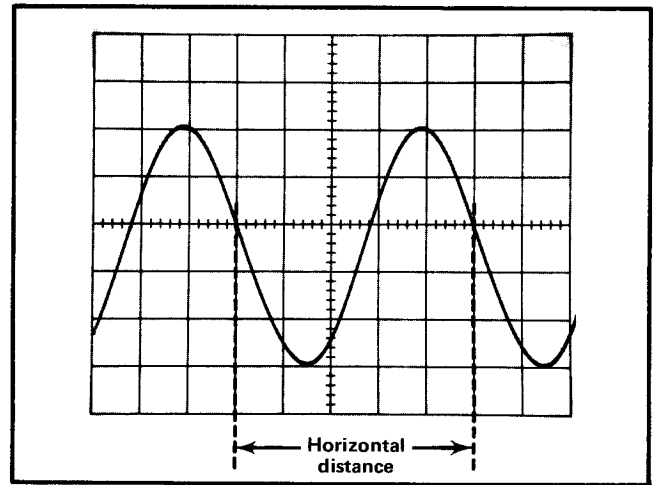

Fig. 2-21. Measuring the time duration between points on a waveform.
5. Set the TIME/DIV switch to the fastest sweep rate that displays less than eight divisions between the time measurement points (see Fig. 2-21). See the topic entitled Selecting Sweep Rate in this section concerning non-linearity of first and last divisions of display.
Example. Assume that the distance between the time measurement points is five divisions (see Fig. 2-21) and the TIME/DIV switch is set to .1 ms with the magnifier off.
Example. The frequency of the signal shown in Fig. 2-21 which has a time duration of 0.5 millisecond is: